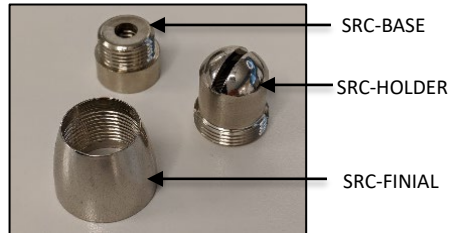

FIG. 27 – SLIP RING COUPLER (1) CONTENTS
9. Dis-assemble the SLIP RING COUPLER (1) as shown below in FIG.27 into three components SRC-BASE, SRC-HOLDER and SRC-FINIAL.